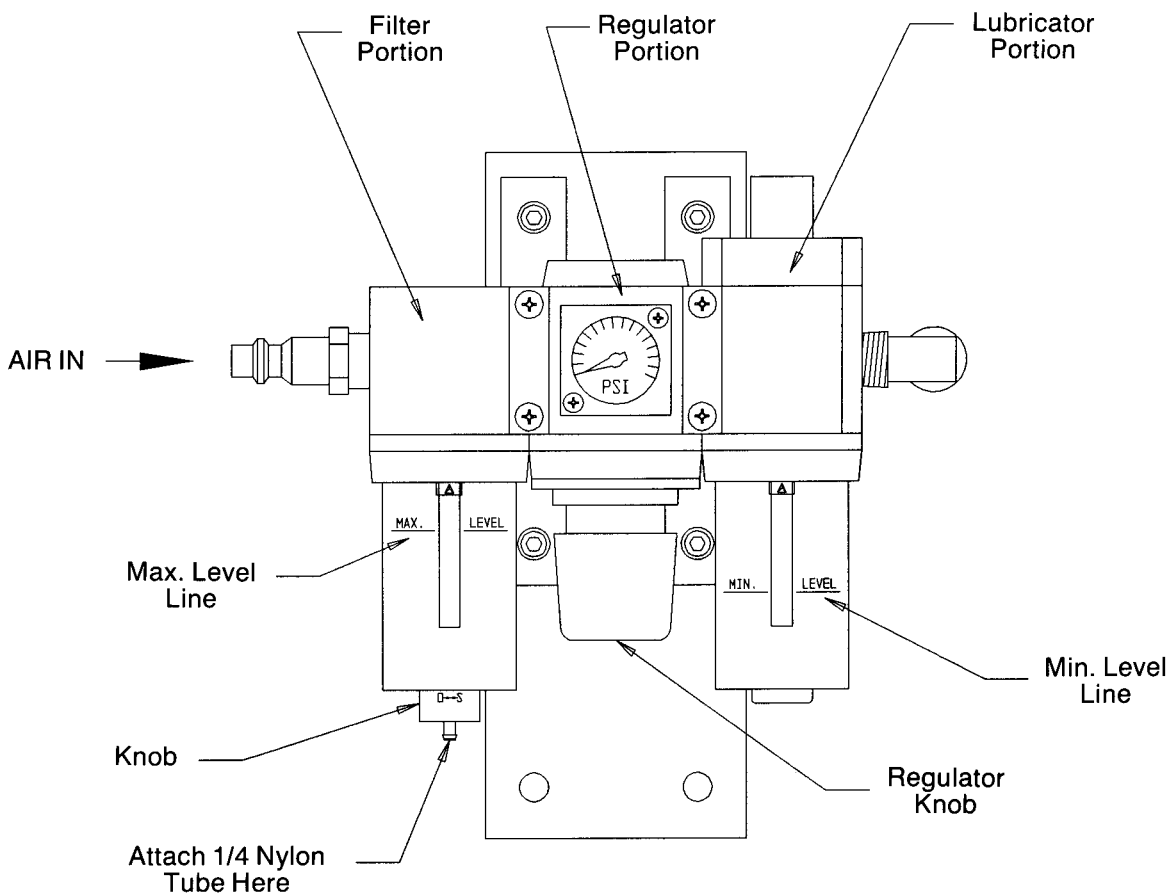

Figure 16
1. The filter portion (see figure 16) of the FRL is used to remove moisture from the compressed air supply. Before the water level reaches the "MAX. LEVEL" line (see figure 16), you should drain the water. How often you have to drain depends on the amount of humidity in the air. To drain the filter, turn the knob on the bottom of the filter in the "O" (open) direction. Turn the knob in the "S" (shut) direction after all of the water has drained.
2. The regulator portion (see figure 16) of the FRL is used to regulate the air pressure being supplied to the machine. The proper setting is 80 PSI. To adjust the pressure, pull the regulator knob down and turn clockwise to reduce the pressure and turn counter-clockwise to increase the pressure. Push the knob back up to lock it into position.
3. The lubricator portion (see figure 16) of the FRL is used to lubricate the compressed air supply. The lubricator should be filled with an air compressor oil before the oil level reaches the "MIN. LEVEL" line (see figure 16).